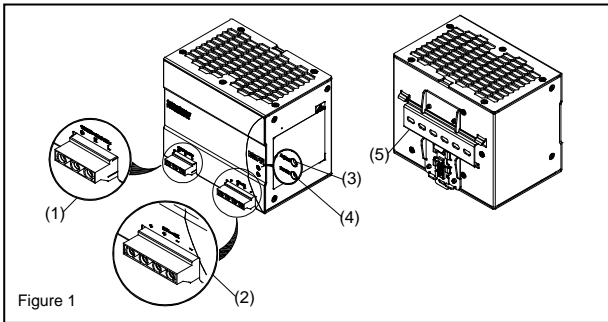
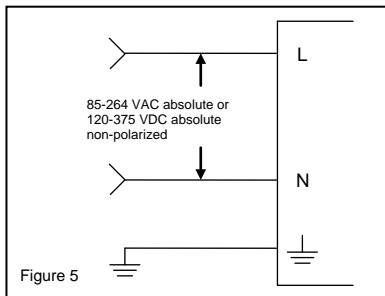

Figure 1
Figure 5
2. Device description (Fig. 1)
5.1. Input connection (Fig. 1 (1), Fig. 5)
Use L, N and PE connections of input terminal connector (see Fig. 1 (1)) to establish the 100-240 VAC connection.
5.2. Output connection (Fig. 1 (2))
Use the "+" and "-" screw connections to establish the 24 VDC connection. The output provides 24 VDC. The output voltage can be adjusted from 24 to 28 VDC on the potentiometer. The green LED DC OK displays correct function of the output (Fig. 1 (4)). The device has a short circuit and overload protection and an overvoltage protection limited to 35 VDC.